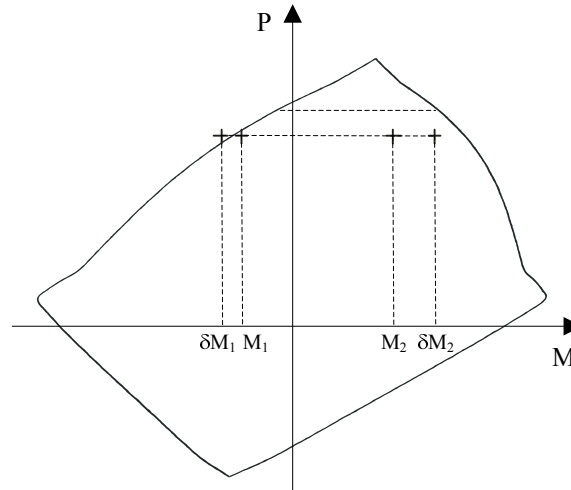

Figure 2-8 Case of unsymmetrical section bent in double curvature (M_1 and M_2 of different sign) with the smaller end moment, M_1 , governing the design
While design codes define moment M_2 as always positive and the sign of moment M_1 depending on single or double curvature bending⁴⁶, spColumn retains actual signs of moments M_1 and M_2 . This revision ensures proper comparison against negative and positive moment capacities of unsymmetrical sections (see Figure 2-8).
2. Moments at column ends, M_1 and M_2 , are calculated, where M_1 is the moment with the smaller absolute value and M_2 is the moment with the larger absolute value. For columns in nonsway frames, the end moments will be equal to the factored applied first order moment. For columns in sway frames, the end moments will be the moments M_1 and M_2 calculated in the procedure for moment magnification at ends of compression member. While design codes define moment M_2 as always positive and the sign of moment M_1 depending on single or double curvature bending⁵⁵, spColumn retains actual signs of moments M_1 and M_2 to ensure proper comparison of resulting magnified moments against negative and positive moment capacities of unsymmetrical sections (see Figure 2-8). This revised interpretation does not affect results of the moment magnification along length procedure because the procedure relies on the M_1/M_2 ratio. spColumn follows the code definition which assumes the ratio to be positive if the member is bent in single curvature and negative if bent in double curvature. If both moments are equal to zero, the program conservatively assumes the ratio of $M_1/M_2 = 1.0$.
11. The factored magnified moment along the length of a compression member, M_c , is the larger⁶⁷ of δM_2 and δM_{min} . The program also calculates moment M_c based on the smaller end moment, M_1 , to account for scenario when M_1 and M_2 are of different sign (double curvature bending). For an unsymmetrical section, the smaller moment, M_1 , may govern the design when the moment capacity on the negative side of the interaction diagram is smaller than the moment capacity on the positive side (see Figure 2-8).